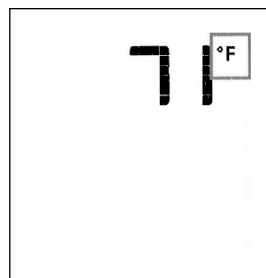

Fig. 8.8. Room temperature readings
- With the transmitter in the OFF position, press the Thermostat Key and the Mode Key at the same time. The display screen will show the current room temperature cycling between Fahrenheit and Celsius indicators each time the keys are pressed simultaneously. See fig. 8.8.